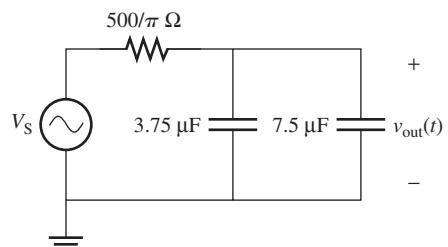

FIGURE P7.14 Circuit for Problem 7.14.
- 7.14** (A)* Find the transfer function for the circuit in Figure P7.14.